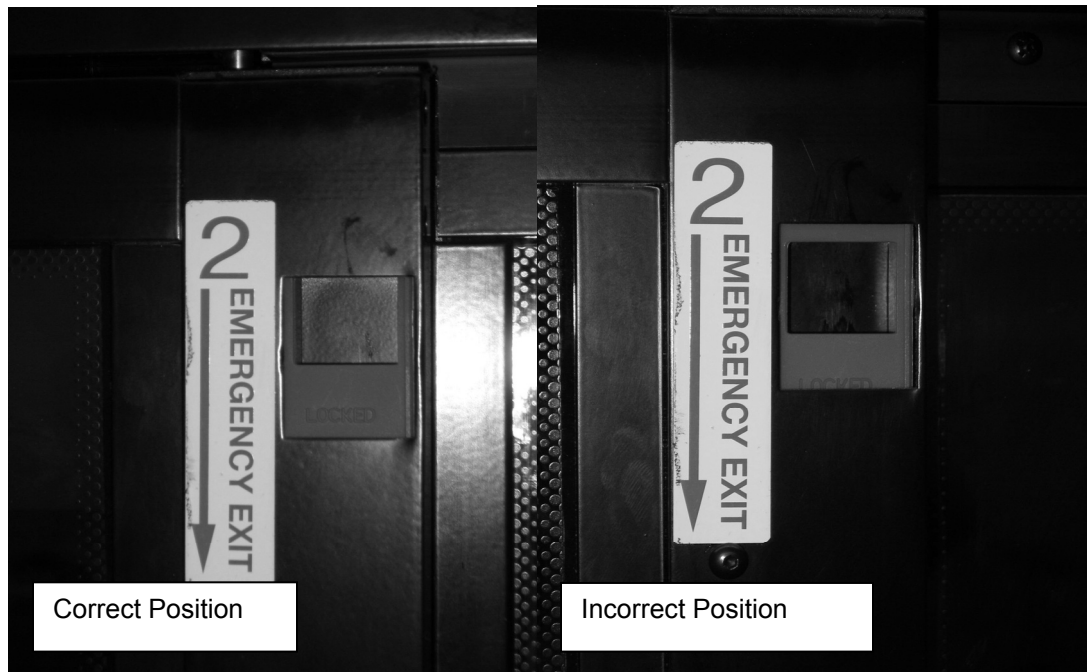

FIGURE 25: RELEASE LATCH PROPER POSITION
6. Confirm that both latches are in the closed (latched) position. The upper edge of the latch opening must be aligned with upper edge of the sash opening (Figure 25)